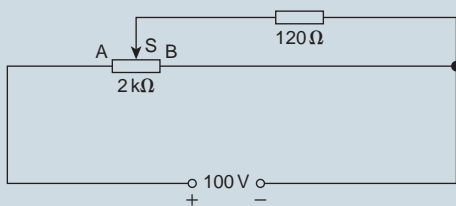

Figure 7.47
4. For the circuit shown in Fig. 7.47, the slider S is set at halfway. Calculate the voltage drop across the $120\ \Omega$ load.